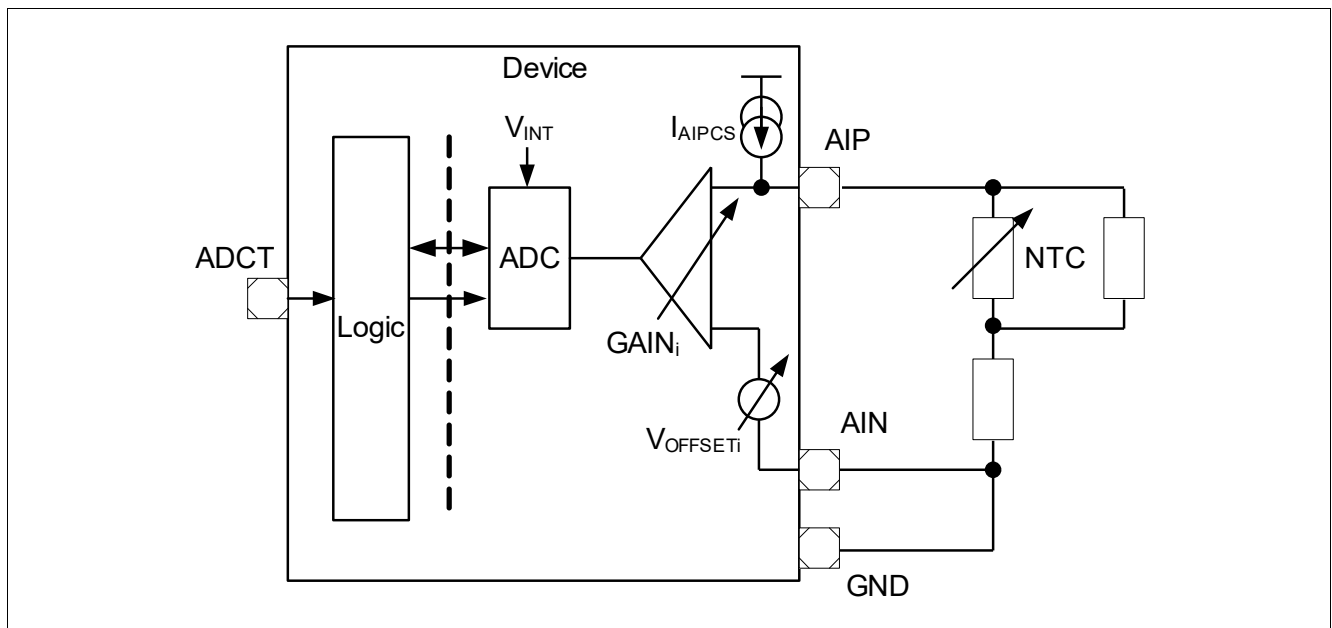

Figure 18 Application example: NTC measurement
- Measuring an NTC resistor located on the power module (**Figure 18**)